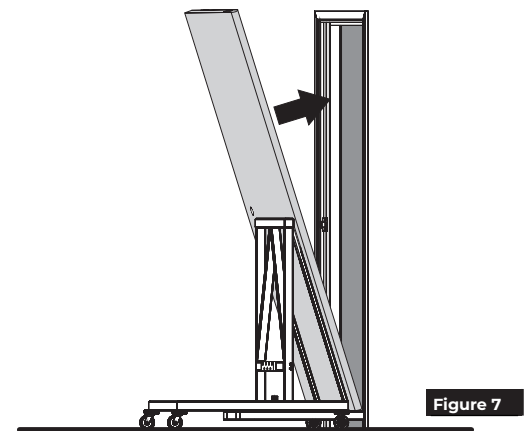

Figure 7
**Caution:** Know weight of door before attempting to install. Determine proper equipment needed to prevent door from falling. (Figure 7)
1. Set door on floor pivot spindle and tilt top of door pivot portion into top jamb portion. (Figure 7)
**Caution:** Know weight of door before attempting removal from frame. Determine proper equipment needed to prevent door from falling. (Figure 7)